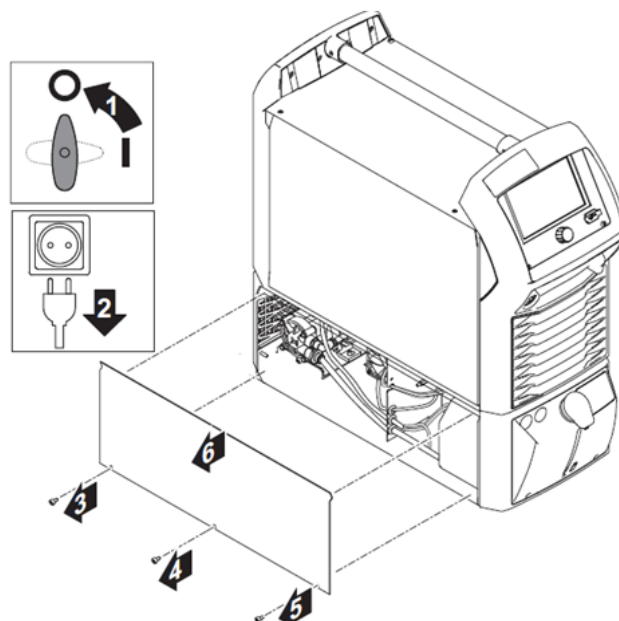

Fig. 5.4.10 (a) Replacing the coolant
- 4 According to Fig. 5.4.10 (b), remove the tube connected to the pump from the coolant tank.